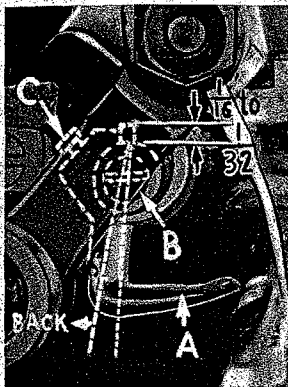

Fig. 8
Insert upper looper (A, Fig. 8) in its holder. Screw (B) holds upper looper in its holder and permits it to be pushed in or out or turned around its shank. Insert upper looper holder into upper looper shaft (if not already in place).
Screw (C) on the clamp holds the upper looper holder in the shaft. Locate upper looper in its holder so that the shank extends $1/32$ to $1/16$ inch beyond holder (Fig. 8).